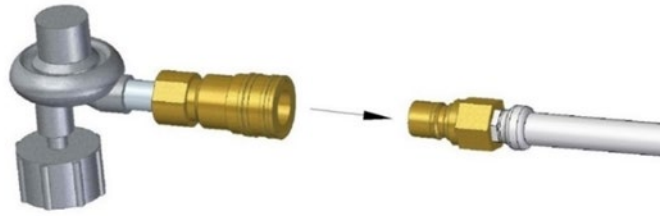

Figure 10: Connect Regulator Assembly to Fuel Supply Hose
3. Locate the regulator assembly. Look over the assembly to make sure no damage has occurred during shipping or handling. Attach the regulator assembly to the male quick connect on the fuel supply hose as shown in Figure 10.